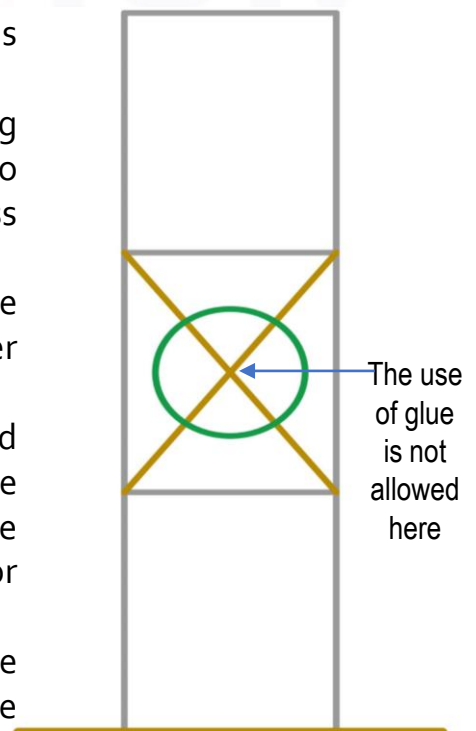

**Fig: 5.2**
- Overlapping at diagonal connection at the joint should not exceed 18 mm as shown in Figure 5.2.